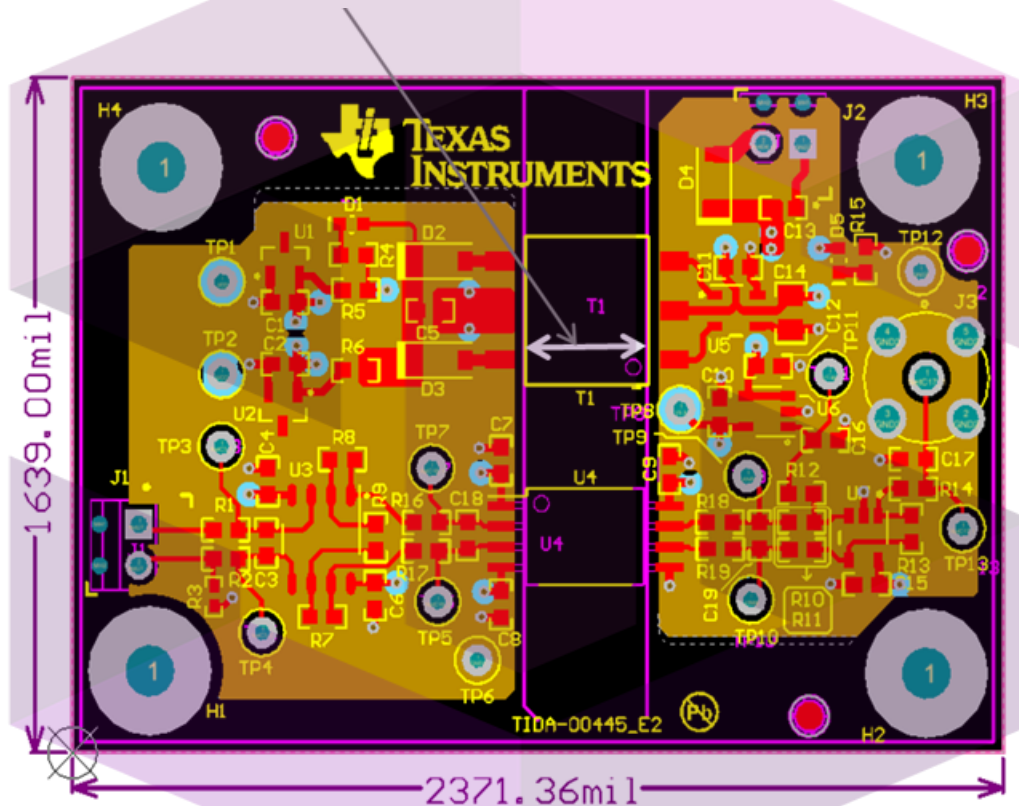

Figure 30. PCB Layout Showing Isolation Between High- and Low-Voltage Side of AMC1200
- No copper between isolation with a minimum width of 9 mm (as represented by the arrows in Figure 30).